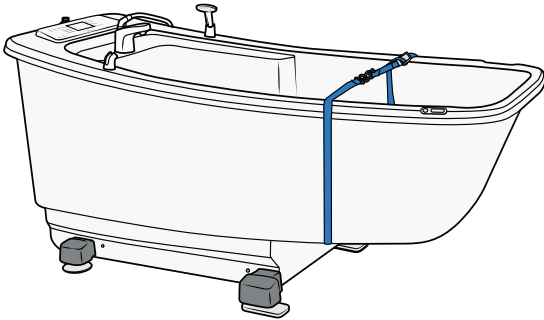

Figure 98
1. Place a strap around the widest part of the bathtub. See Figure 98.